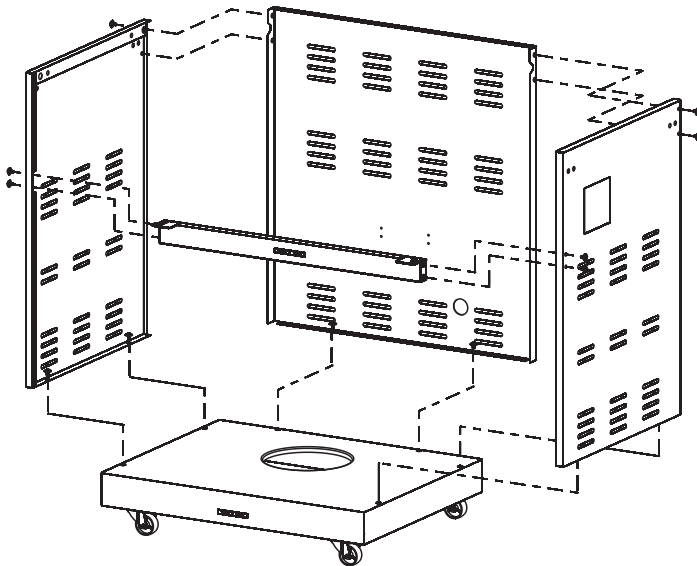

Figure 2
5. Attach cart back to back of cart bottom with two (2) lock washers and 1/2" panel screws. **See Figure 2.**
6. Attach cart side panels to cart back with two (2) lock washers and 1/2" screws per cart side. Then, attach side panels to the cart bottom with two (2) lock washers and 1/2" screws per side. **See Figure 2.**
7. With flange on door brace positioned upward, attach door brace to cart sides with four (4) 1/2" screws. **See Figure 2.**